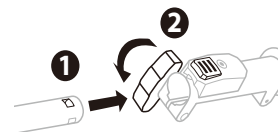

Fig.2B
3. Align the installation hole on the pole saw attachment shaft with the arrow on the power head shaft, and push the pole saw attachment shaft into the power head shaft until you hear a “click” sound, which means that the pole saw attachment shaft is mounted into place (Fig.2B, 1).
5. Tighten the wing knob firmly (Fig.2B, 2).